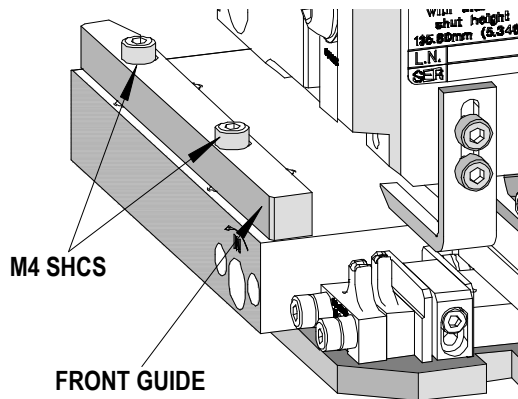

Figure 2-38
3. To adjust the front guide, use a 3mm hex wrench to loosen the (2) M4 SHCS that hold the guide to the track. See Figure 2-38.